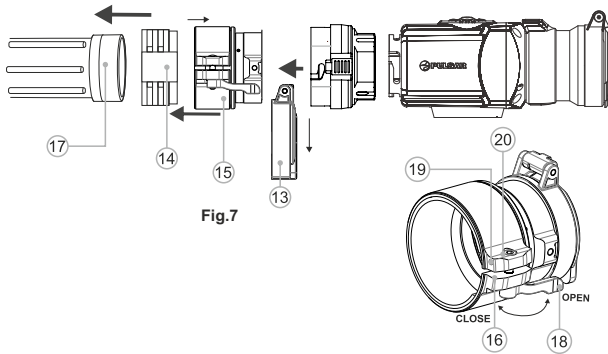

Fig.7
- Install firmly the adapter with the insert onto the objective lens (17) of an day device (Fig. 7).
- Snap the lever (18) from the original **OPEN** position to the **CLOSE** position (Fig. 7). Check that the adapter firmly fits the objective lens. If you see there is a clearance, please:
- Loosen the locking screw (19) with the hex-nut wrench (S=2mm).
- Tighten the screw (20) with hex-nut wrench (S=4mm) with a clamping force necessary to ensure that the adapter fits tightly the objective lens.
- Tighten the locking screw (19).